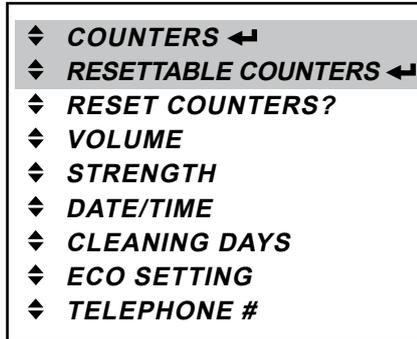

Fig. 33
- In the operator mode, press the enter button ← to access the «COUNTERS» menu or the «RESETTABLE COUNTERS» menu (fig. 33).